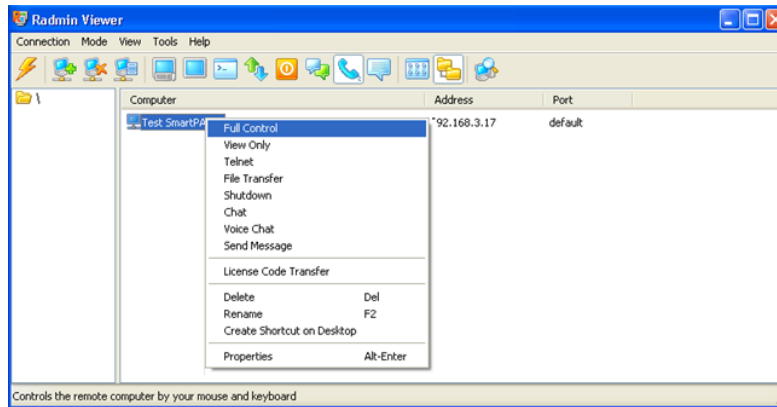

Figure 2. Full Control selection
3. Right click and select Full Control as shown in Figure 2: